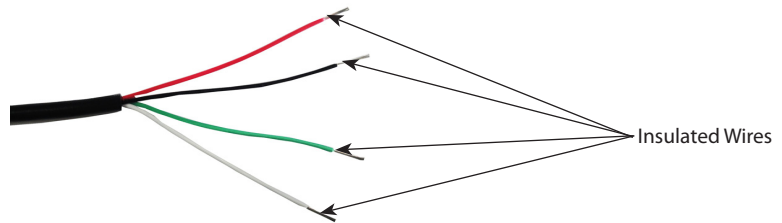

Figure 9: Insulated Wires
- Strip the four (4) insulated wires to a length of 1/4" to 3/8" (see Figure 9).